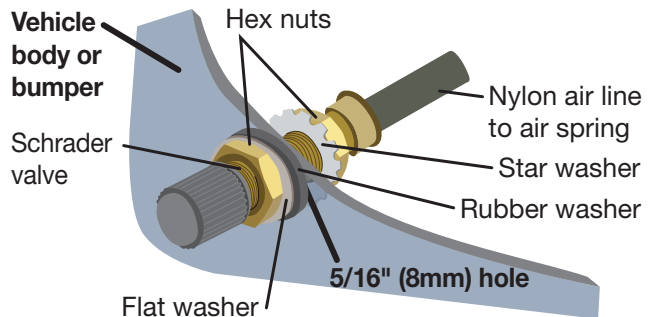

Fig. 19
- Install the Schrader valve in the chosen location (Fig. 19).